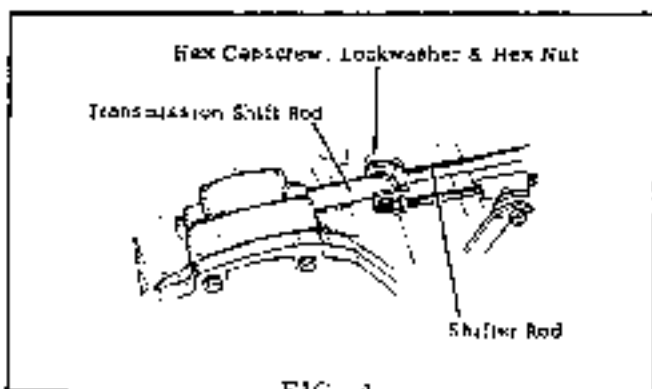

FIG. 4
5. Attach the clevis of the shifter rod to the transmission shift rod, using hex cap screw, lockwasher, and hex nut as shown in Fig. 4.